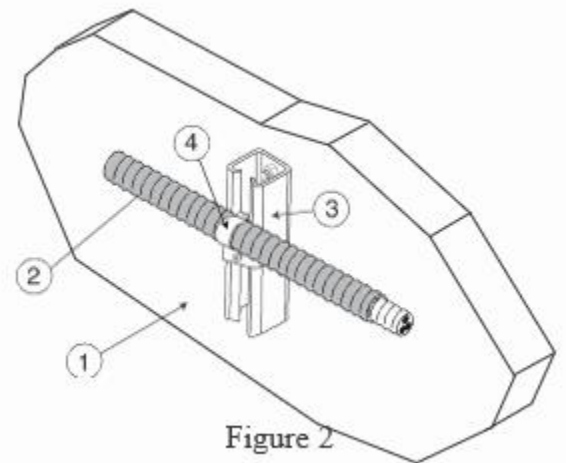

Figure 2
B. Clamps – For armored jacketed VITALink[®] cables, both vertical and horizontal installations, Kindorf[®] J-800 series interlocking strap with Kindorf[®] J-851 locking brackets shall be used (Figure 2). The inside diameter of each interlocking strap shall be sized to correspond with the outside diameter of the cable, to provide a secure mount with the strap of the clamp in complete contact with the outside of the cable.